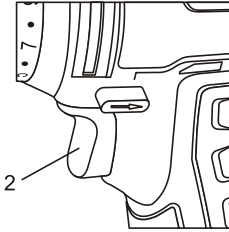

Fig. 7
1. To start drill/driver, gently squeeze the trigger switch (2) (Fig. 7).